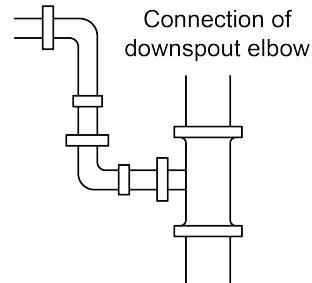

Fig 4.14
② : Connection of downspout elbow (Fig 4.14)